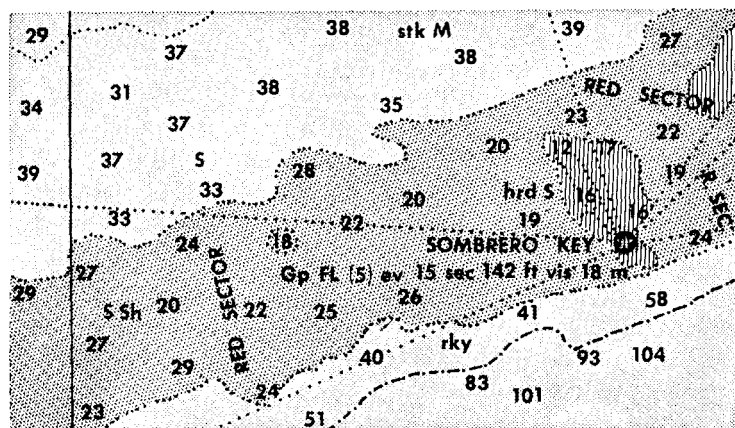

Figure 199.—Lighthouse details on chart.
For a quick review, look at the legend in figure 199. It is Gp. Fl. R. (group flashing) (5) ev 15 sec 142 ft vis 18 mi. This means that the light flashes red in groups of 5